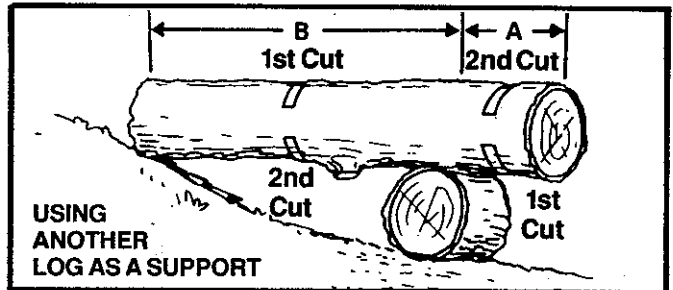

Figure 26
**4. BUCKING — USING ANOTHER LOG AS A SUPPORT** Figure 26.